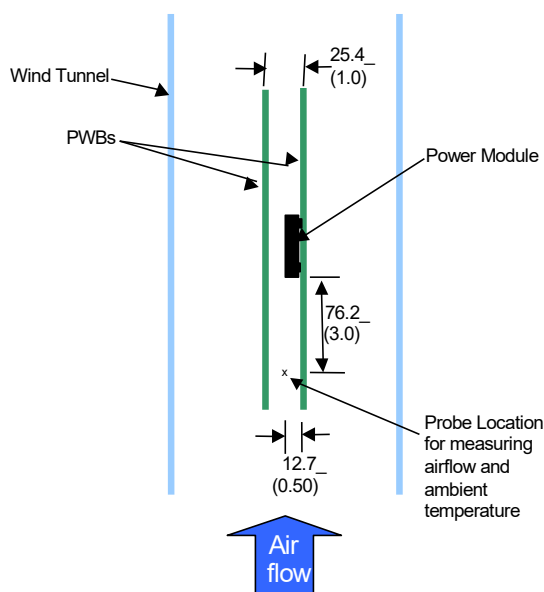

Figure 28. Thermal Test Setup.
Power modules operate in a variety of thermal environments; however, sufficient cooling should always be provided to help ensure reliable operation. Considerations include ambient temperature, airflow, module power dissipation, and the need for increased reliability. A reduction in the operating temperature of the module will result in an increase in reliability. The thermal data presented here is based on physical measurements taken in a wind tunnel. The test set-up is shown in Figure 28. The preferred airflow direction for cooling the module and the thermal reference points, Tref used in the specifications are shown in Figure 29. For reliable operation the temperatures at these points should not exceed 120°C (IC200) and 115°C (C202). The output power of the module should not exceed the rated power of the module ($V_{o,set} \times I_{o,max}$). Please refer to the Application Note “Thermal Characterization Process for Open-Frame Board-Mounted Power Modules” for a detailed discussion of thermal aspects including maximum device temperatures. Increased airflow over the module enhances the heat transfer via convection. The thermal derating of figures 2, 8, 14 and 20 show the maximum output current that can be delivered by each module in the indicated orientation without exceeding the maximum Tref temperature versus local ambient temperature (TA) for several air flow conditions. The thermal derating curves were generated using a 12 layer evaluation board with 3oz copper in inner layers and 2 oz in outer layers